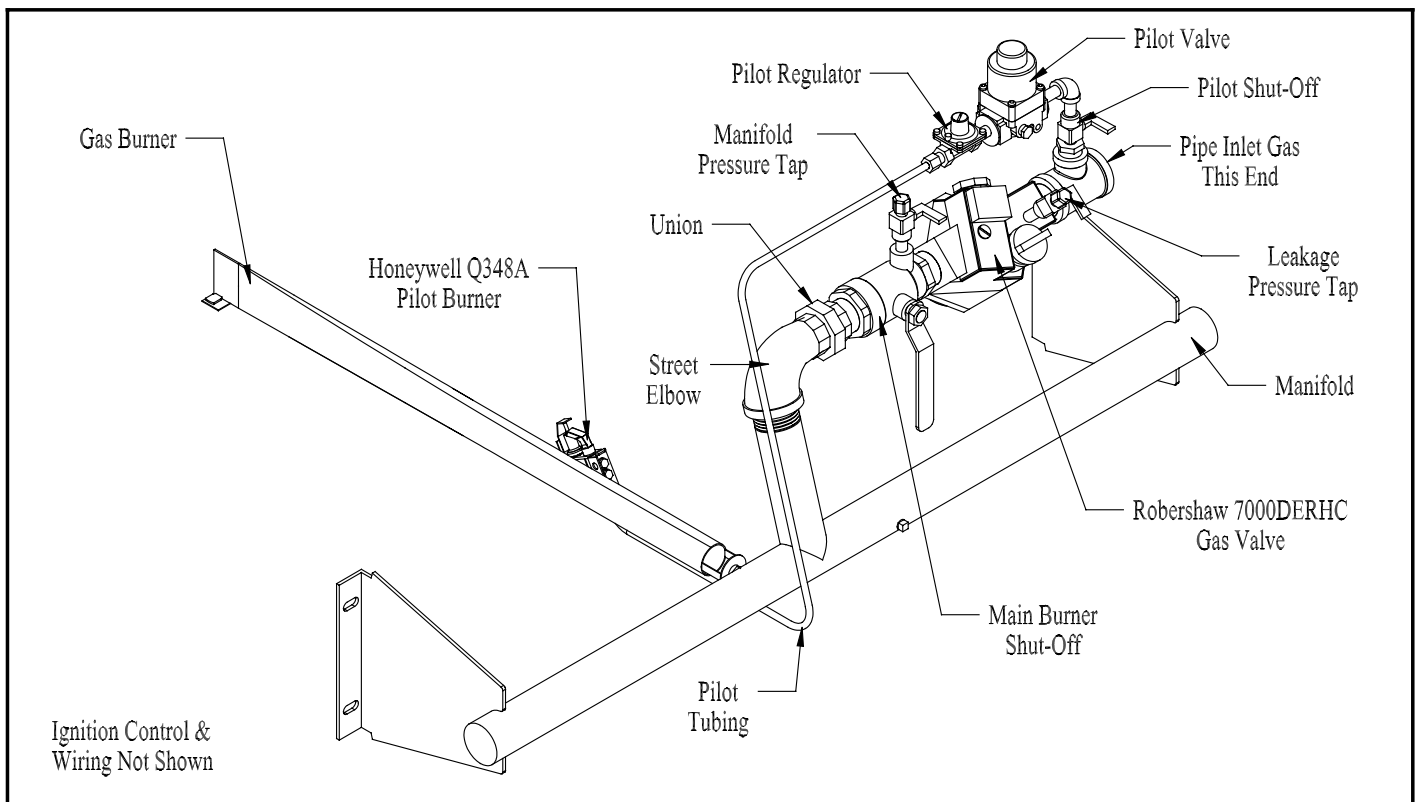

Figure 8: Gas Train - CSD-1 Build, 16-455, 16-520, & 16-585
- 1) The CSD-1 gas valve assembly has been pre-piped with one half of a piping union and is to be connected to the other half of the union located on the gas manifold. See Figure 8.